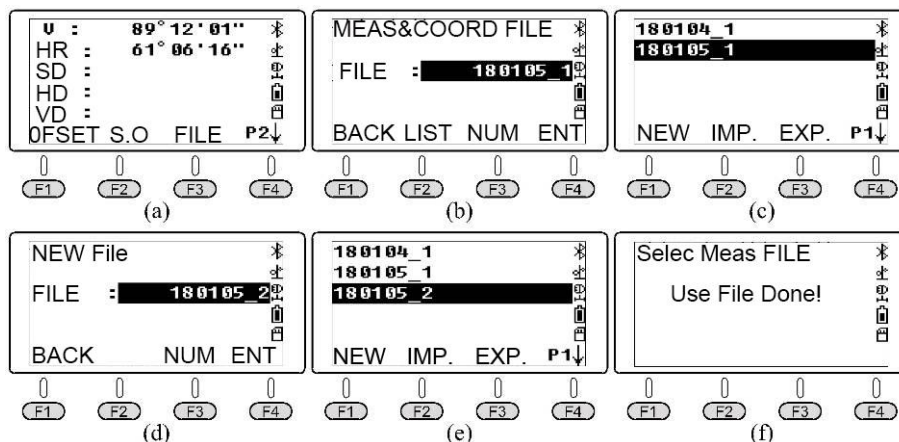

Figure 2-22 Execute the commands "File/List/New" in the function menu on page P2 of Distance Mode
Press button **(F3)** (File) and button **(F2)** (List) to enter the interface of file list as shown in Figure 2-22(b). There are two pages of function menu. Press button **(F4)** to turn the pages.
② List-ATTR(Attribute), RENAME, DEL(Delete): In the menu on page P2 [Figure 2-22(b)] of the FILE-LIST, press button **(F1)** (ATTR) to display the attribute data of measurement file 180105_1.SMD [Figure 2-22(d)]. Press **(F4)** to turn pages, and the screen displays the attribute data of the coordinate file 180105_1.SCD [Figure 2-22(e)].
In the interface shown in Figure 2-22(c), press button **(▲)** or **(▼)** to move the cursor to the file name needed to be modified. Press button **(F2)** (Rename) to modify the file name of the cursor line, or press buttons **(F3)** (Delete) and **(F4)** (OK) to delete the file of the cursor line.
③ Set the current measurement file: press button **(▲)** or **(▼)** to move the cursor to the required file name, and then press **(ENT)** to set the file of cursor line to be the current file and then back to the function menu on page P3 of Angle Measurement.
Figure 2-22 shows the operation process of creating a file with name of 180105_2 and setting it as the current file by pressing buttons **(F3)** (File) **(F2)** (List) **(F1)** (New) in the function menu on page P2 of Distance Mode. The following results of executing command "All" are stored in this file.